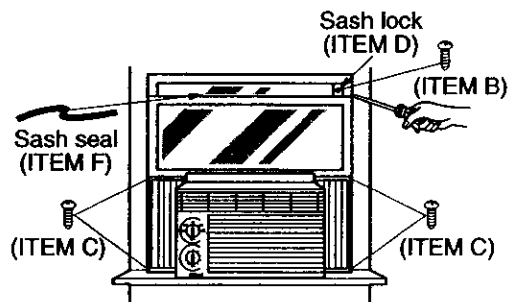

Figure 79
Extend the sliding panels to fill the window opening using 4 screws (ITEM C) to secure them, as shown in Figure 79.
Stuff the sash seal between the glass and the window to prevent air and insects from getting into the room, as shown in Figure 79.
- Screw the sash lock (ITEM D) on using an ITEM B screw, as shown in Figure 79.